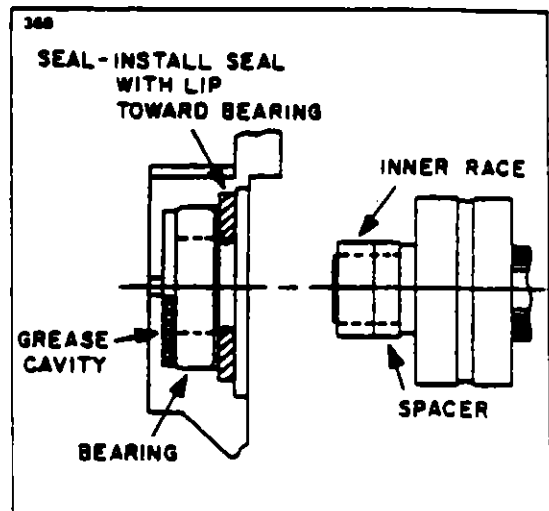

FIGURE 9-27l. SLIP RING END BEARING ASSEMBLY
e. Install the slip ring end bearing and oil seal. Make sure the lip of the oil seal is toward the bearing. Correct assembly of bearing, seal, inner race and spacer is shown in Figure 9-27l.